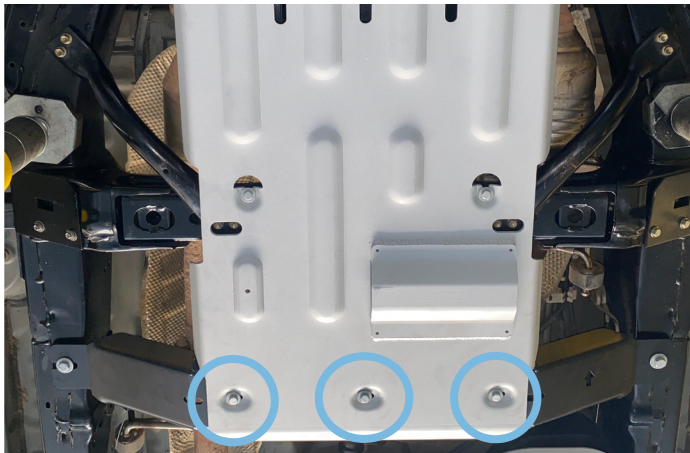

Fig.11
11. Secure the rear of the skid plate to the mounting bracket (item 3) using M8x30 bolts (item B) with M8 flat washers (item F) as shown in Fig.11.